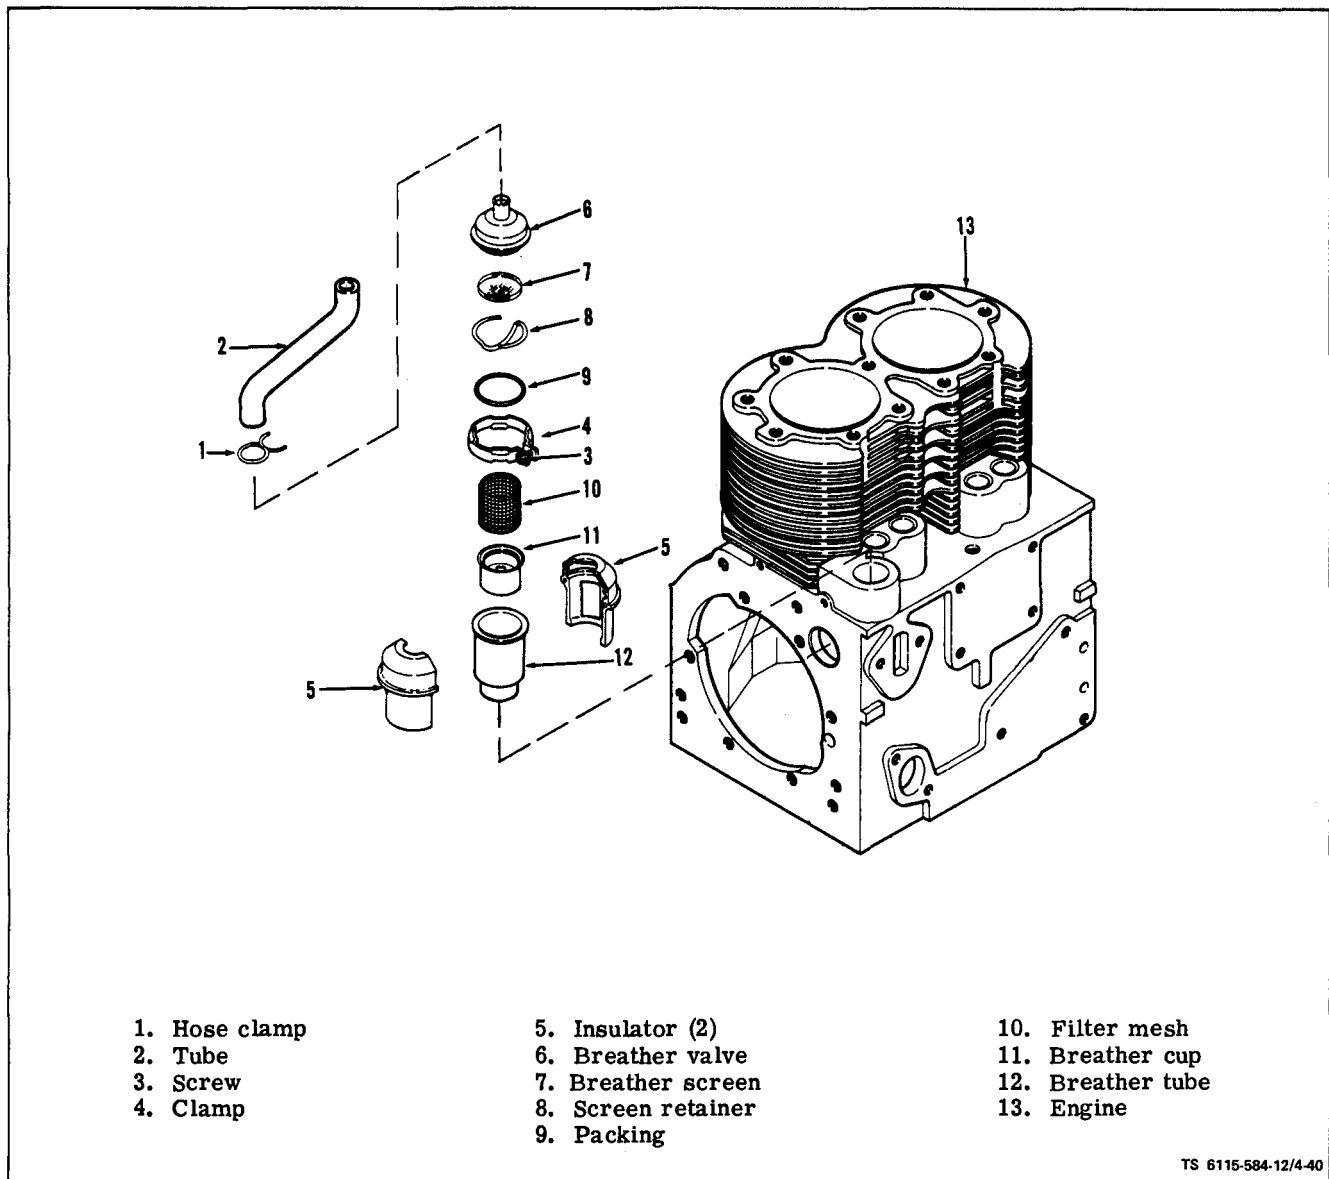

Figure 4-40. Breather Assembly
a. Inspect (see figure 4-40). Inspect exterior of breather for damage. Inspect that tube (2) is securely attached to breather valve (6). Inspect that tube (12) is securely seated in engine (13),